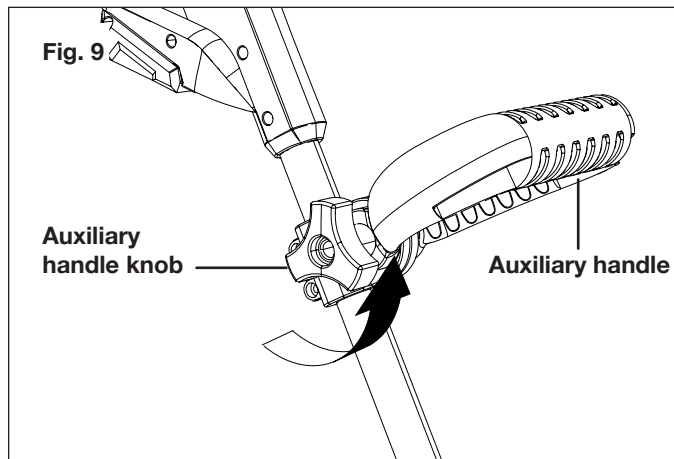

Fig. 9
2. Rotate the auxiliary handle knob counterclockwise to loosen the auxiliary handle (Fig. 9).